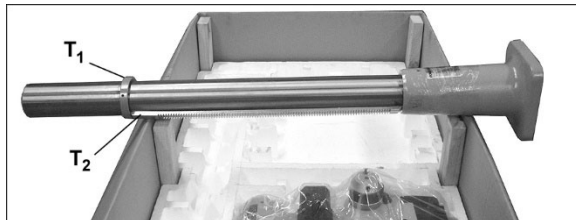

Figure 6-1
1. Lay column across carton supports, as shown in Figure 6-1.
5. Remove collar (T₁) and rack (T₂) from column. See Figure 6-1.